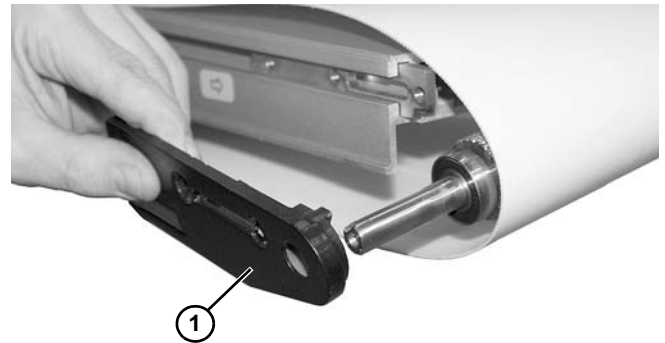

Figure 36
4. Remove the head plate (Figure 36, item 1) from the conveyor frame, holding spindle in place.